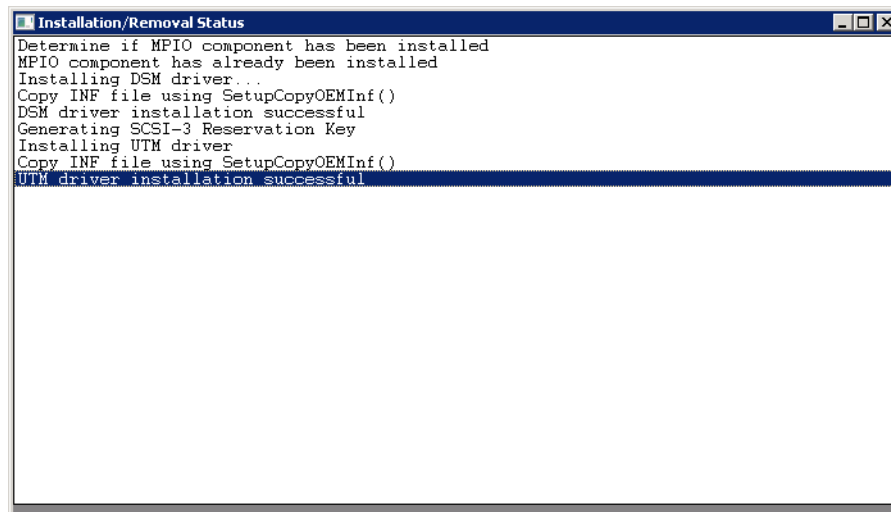

Figure 3-17 - MPIO Device Specific Driver - Installation process status console
3. During the installation process a new windows will be opened showing the installation process from the console as shown in Figure 3-17.